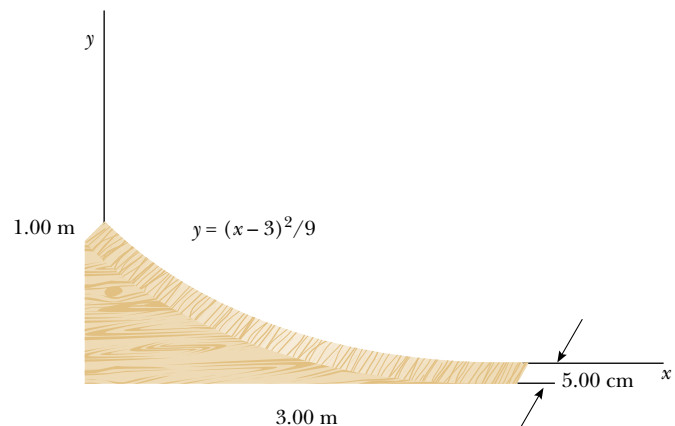

Figure P12.6
6. Pat builds a track for his model car out of wood, as in Figure P12.6. The track is 5.00 cm wide, 1.00 m high, and 3.00 m